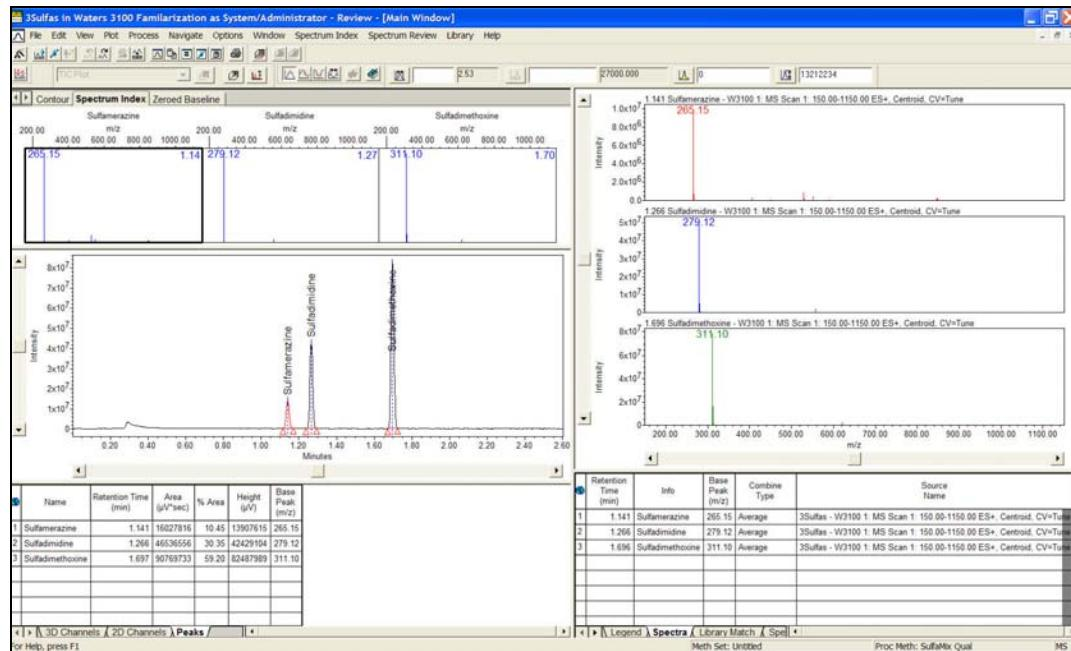

Figure 176 - Displayed results
3. Select both the **3Sulfas MS** and **PDA Results** and click the **Review** icon  to display the processed data in the Review window, see Figure 176.
**NOTE:** The Review window is displayed as it was last viewed. If the display is not as in Figure 176, click the **Review Main Window** icon, click **View > 3D Layout**, and then click the **Spectrum Index** tab.